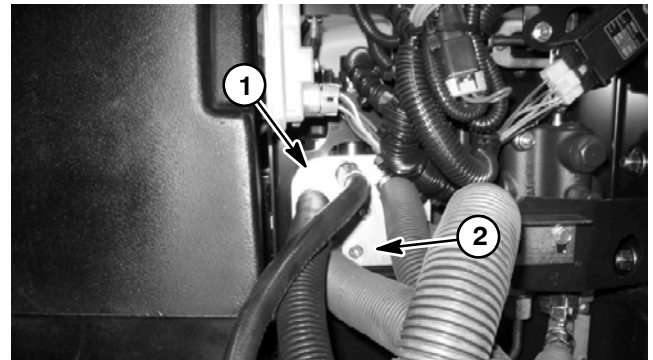

Figure 25
4. Remove plug from hydraulic manifold port (G2) (Fig. 25).